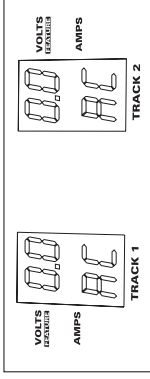

Fig. 5
3. Use the throttles on the Z-4000 transformer to set the track voltage(s) to whatever you desire. When you wish to return control to the handheld, press any button on the remote or scroll the throttle on the remote. You should now see RC RC in the amps window, indicating that the remote has regained control (Fig. 5). The voltage now displayed is the commanded voltage from the remote. The next time you take control with the Z-4000 transformer by pushing any button on the transformer, it will run the train(s) at the voltage you set with the Z-4000 transformer throttles. This allows you to switch between remote control and local control and still have the train(s) running at a commanded voltage.